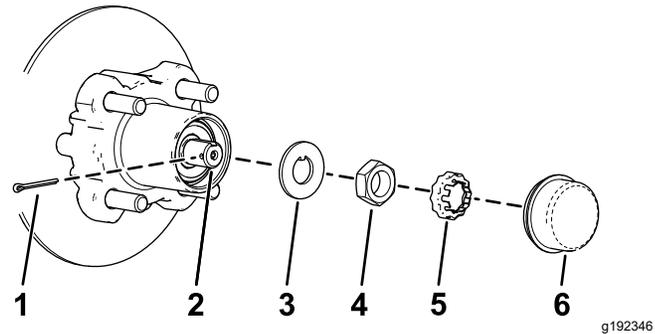
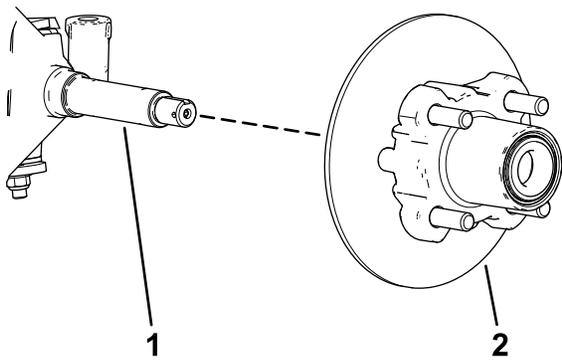

Figure 35
Figure 36
4. Remove the dust cap from the hub (Figure 35).
5. Remove the cotter pin and nut retainer from the spindle and spindle nut (Figure 35).
6. Remove the spindle nut from the spindle, and separate the hub and rotor assembly from the spindle (Figure 35 and Figure 36).